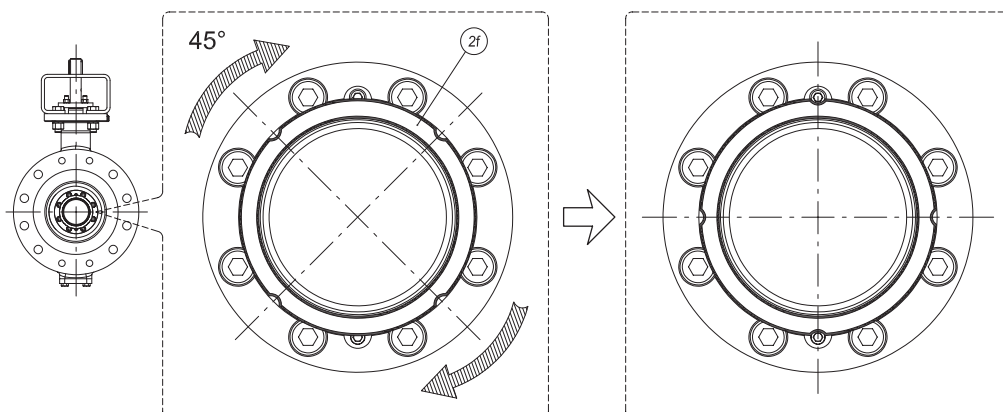

FIGURE 12
18. Reinstall the SSG (2f) by aligning the slots on it to the grub screw holes and by turning it of 45° - figure 12: